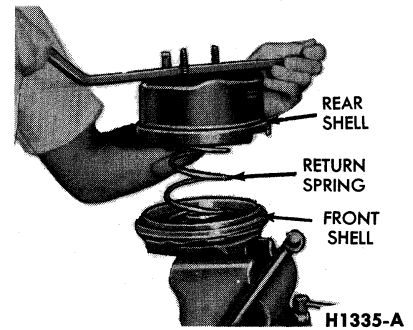

FIG. 17—Separating Booster Shells
5. Place the booster in a vise as shown in Fig. 17. Press downward on the rear shell and at the same time, turn it counterclockwise with a flat bar to release it from the front shell. Release the pressure on the rear shell slowly to prevent the diaphragm plate return spring from flying out.